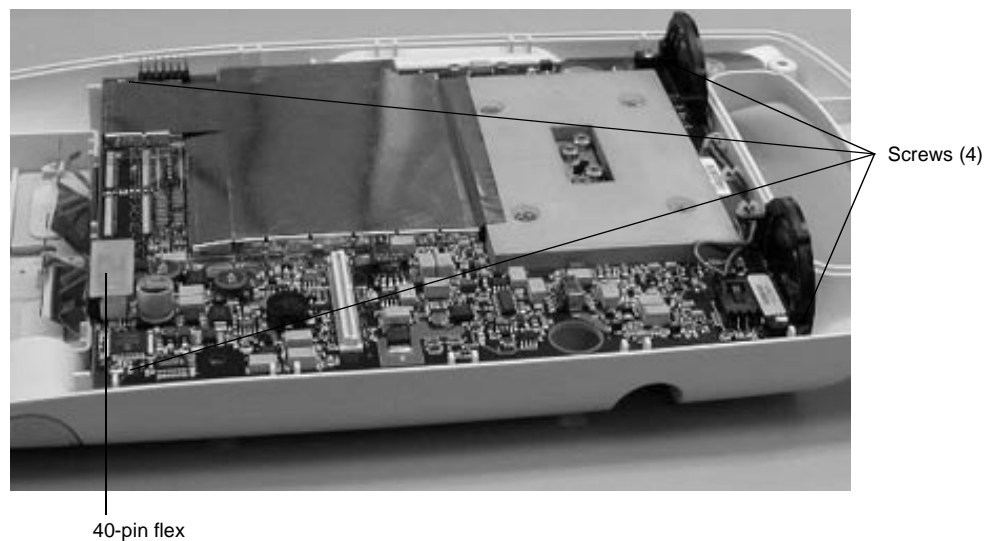

Figure 7.19 Removing the Main PCBA Subassembly from the Bottom Housing
- 7** Remove the four screws that connect the Main PCBA Subassembly to the bottom housing using a #1 Phillips screwdriver (Figure 7.19).